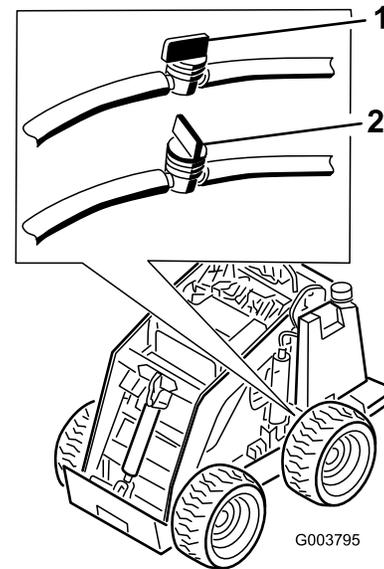

Figure 33
2. Shut off the fuel valve on the bottom of the fuel tank (Figure 33).
8. Open the fuel valve on the bottom of the fuel tank (Figure 33).
3. Shut off the fuel valve in the hose near the bottom of the fuel tank (Figure 33).
10. Open the fuel valve in the hose near the bottom of the fuel tank as illustrated in Figure 33.